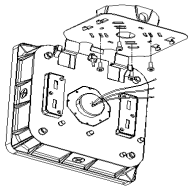

FIG.3
1. Fix the mounting plate onto the junction box. FIG.3
2. Hang the light body onto the mounting plate and wiring. FIG.3